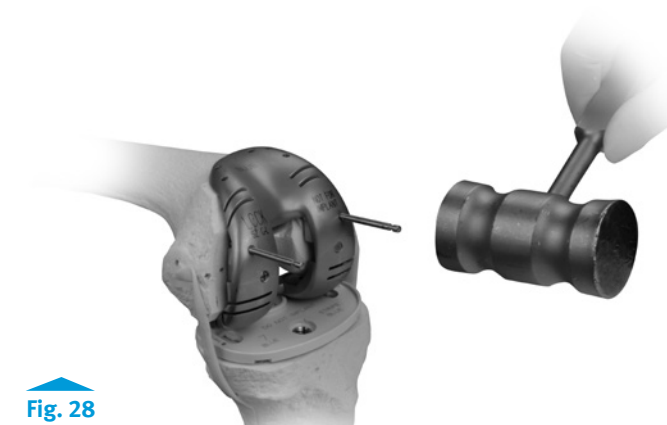

Fig. 28
- If the handles of the alignment guide line up with the transepicondylar axis, insert the Headless Holding Pins to set femoral rotation (Fig. 28).